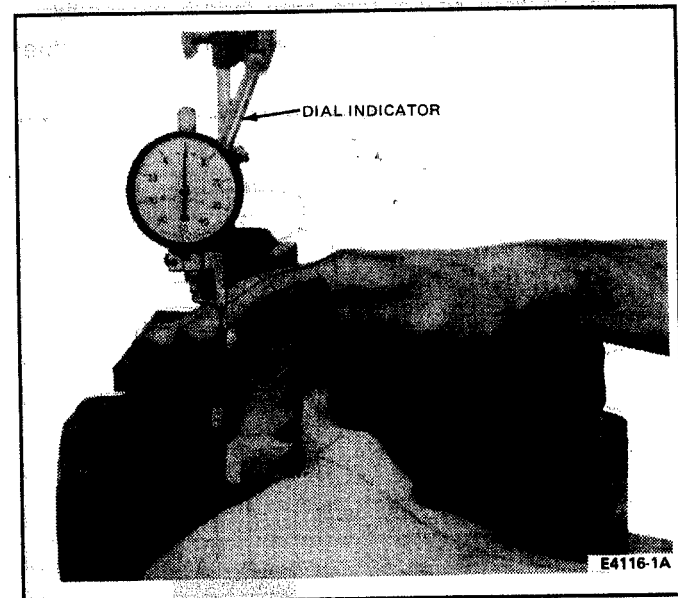

FIG. 25 Checking Differential Case Endplay
3. Place the differential case into carrier (without pinion). The differential case should move freely in the carrier. Mount dial indicator (D78P-4201-B or Tool 4201-C) against the differential case flange as shown in Fig. 25. Locate the tip of the indicator on the flat surface of one ring gear bolt. Force the differential case toward the dial indicator as far as possible and zero the dial indicator with force still applied.